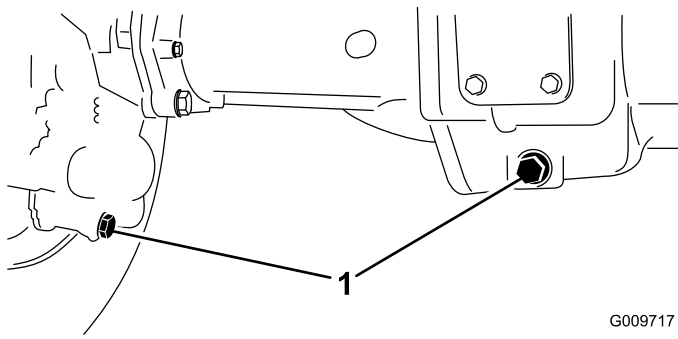

Figure 48
- Clean the area around the 3 drain plugs, 1 on each end and 1 in the center (Figure 48).